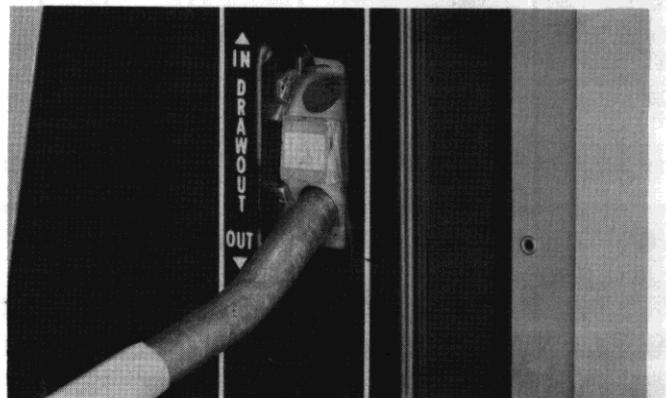
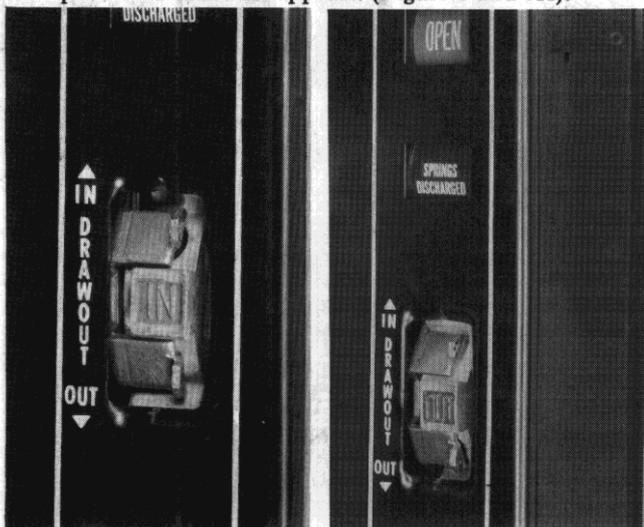

Figure 8
Figure 9 & Figure 9A
12. Push **drawout** interlock to left, insert **drawout** lever 1101-9251, (Figure 8) into the bottom hole of the **drawout** mechanism and, with an up-stroke, rack breaker into the **TEST** position. Remove **drawout** lever, **drawout** interlock plate should snap into position completely covering the holes.
- To put circuit breaker into service push **drawout** interlock to left, insert **drawout** lever in the bottom hole of the **drawout** mechanism (Figure 8) and **with an** upward stroke rack breaker into operating position. Remove **drawout** lever, **interlock plate should snap in position and red IN appears. (Figure 9 and 9A).**